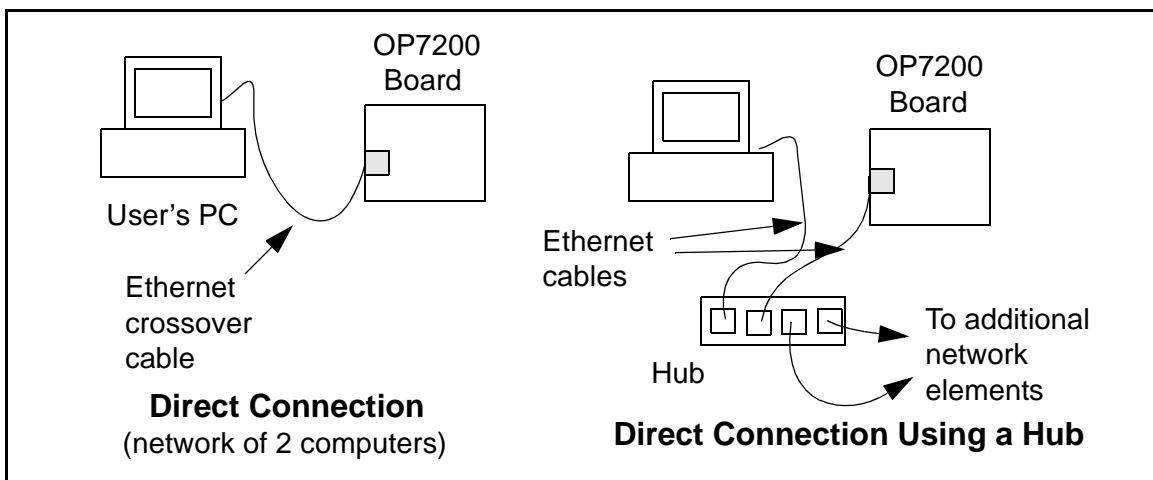

Figure 22. Ethernet Connections
- If you have an Ethernet connection, use a straight-through Ethernet cable to establish an Ethernet connection to the OP7200 from an Ethernet hub. These connections are shown in Figure 22.